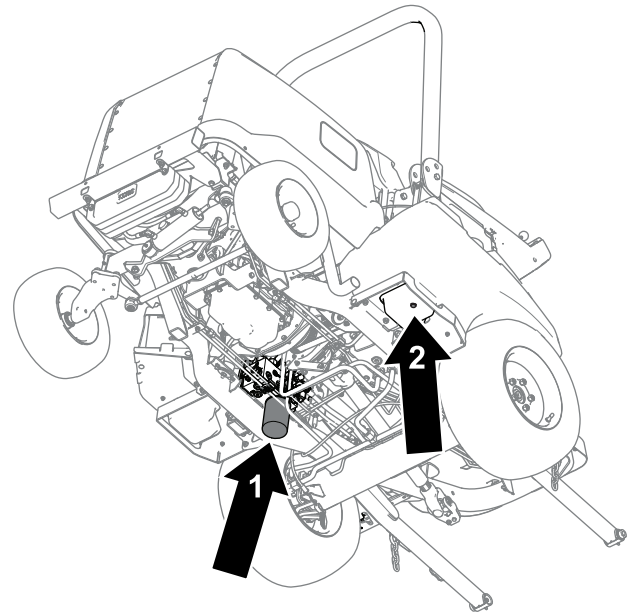

Figure 81
4. Remove the drain plug (Figure 81) from the bottom of the tank and let the hydraulic fluid flow into the pan.
6. Place a drain pan under the filter (Figure 81), remove the filter, and let any remaining oil drain into the pan.